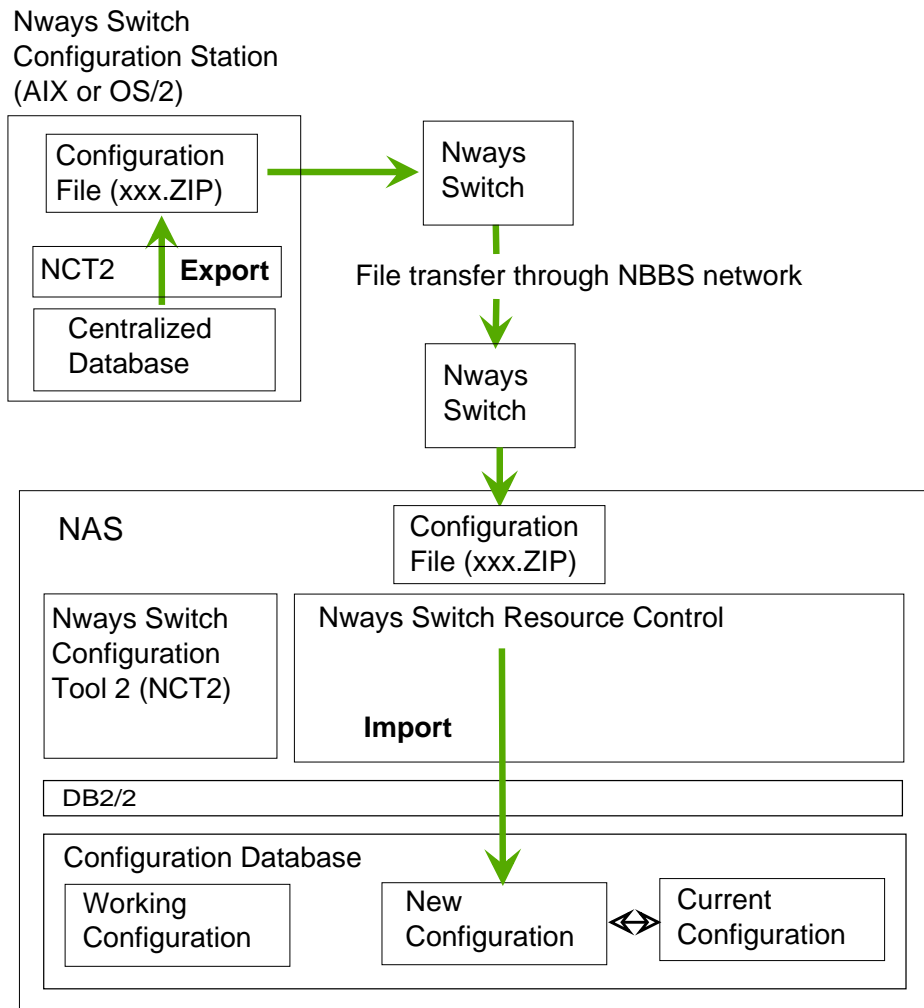

Figure 12. Changing Configurations from a Configuration Station
1. From NCT2 for OS/2 or AIX on the configuration station, export the configuration data for each updated Nways Switch into a compressed file called Nways-Switch-name.ZIP (see Figure 12).